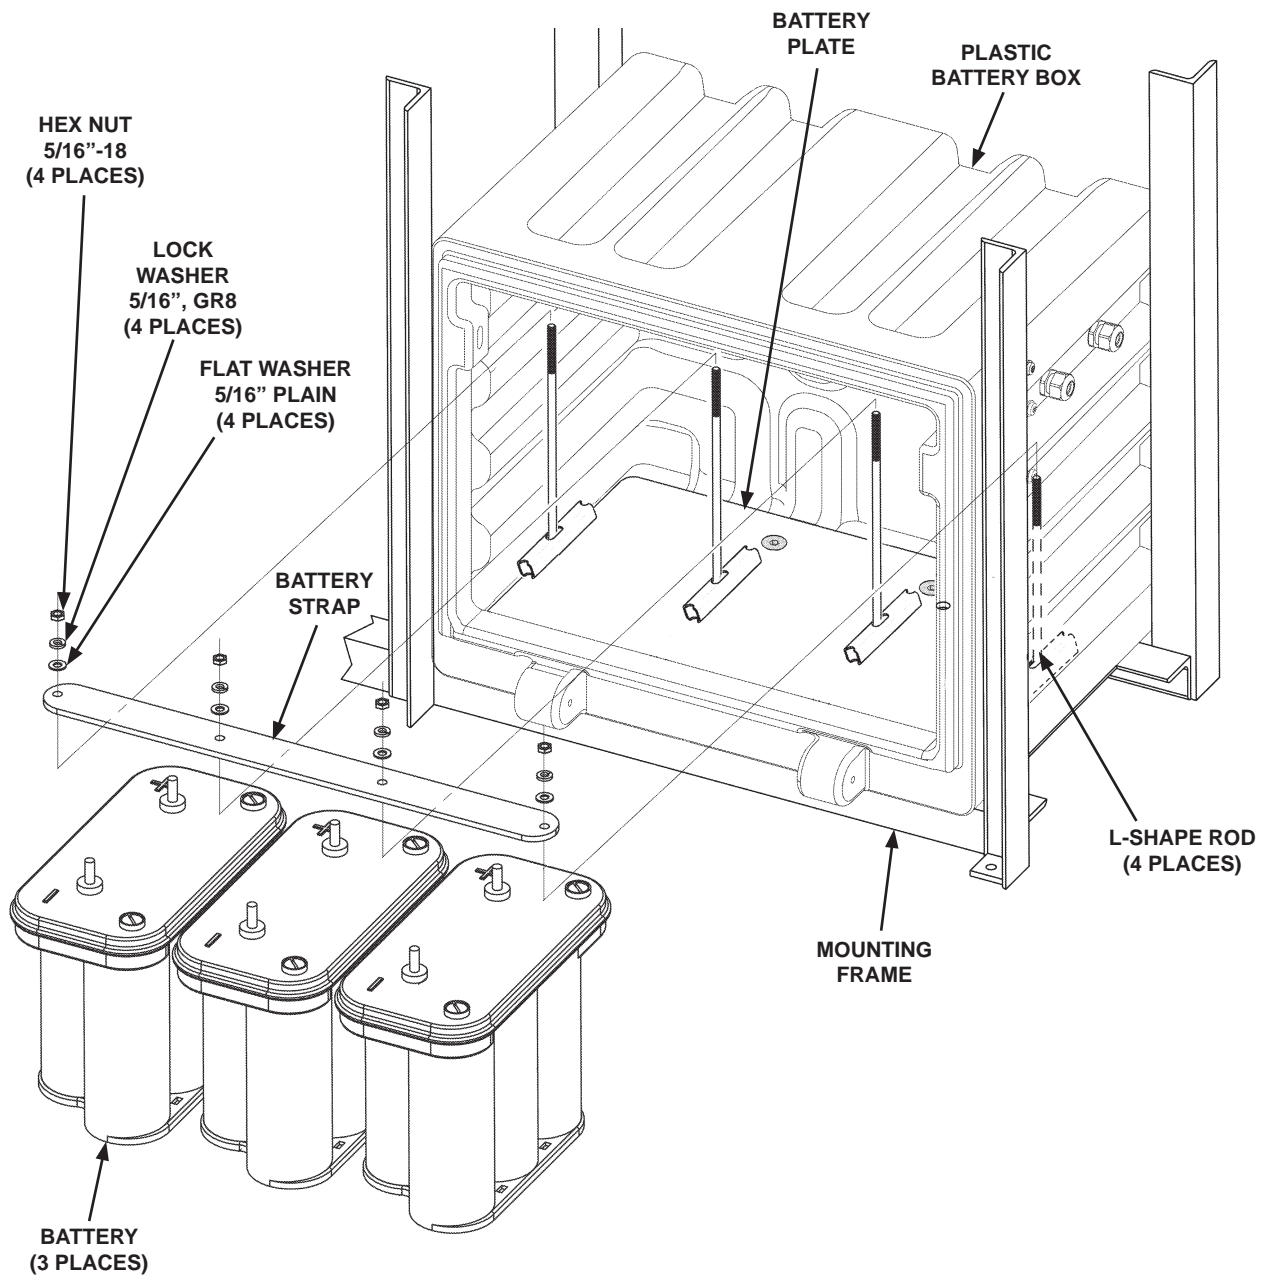

FIG. 6-1
3. Place three batteries (not supplied) on battery plate (FIG. 6-1).
4. Place battery strap (kit item) on the three batteries (FIG. 6-1) and L-shape rods. Secure batteries to battery plate with strap, L-shape rods, washers and hex nuts (FIG. 6-1).